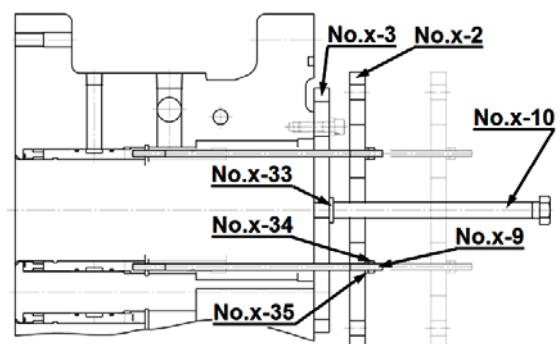

Figure 5-20 Special Tools for Main Bearing of GH250S/L
1. Install special removing tools for main bearings [27] with referring to Fig 5-20.